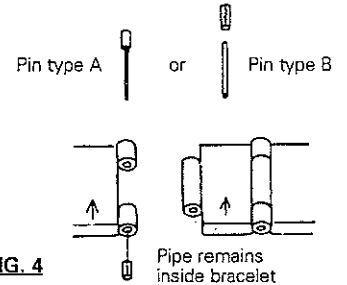

FIG. 4
The pipe will remain in the side of the link from which the link pin is pushed (FIG. 4)
3. Place the band on one of the cross open slots of the band holder ref. to (Fig 4), then turn the pressor clockwise so that the bit goes through the pipe hole (with sizing code C&P) or fixing pin (with sizing code 1), to push the link pin out the opposite side